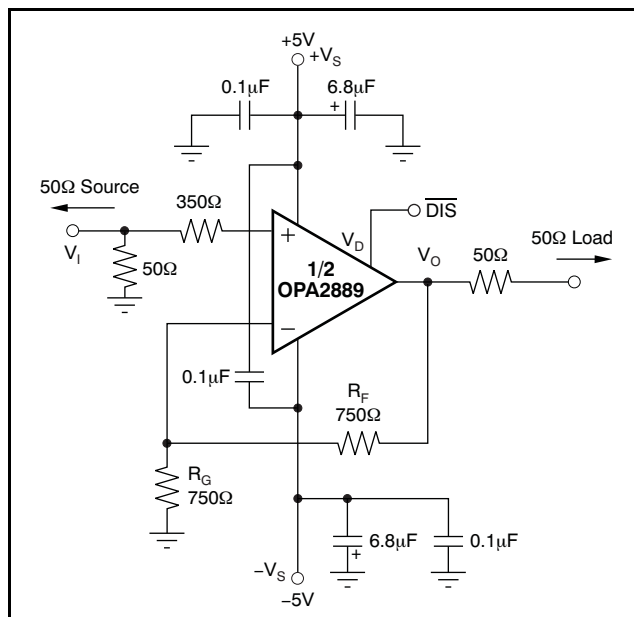
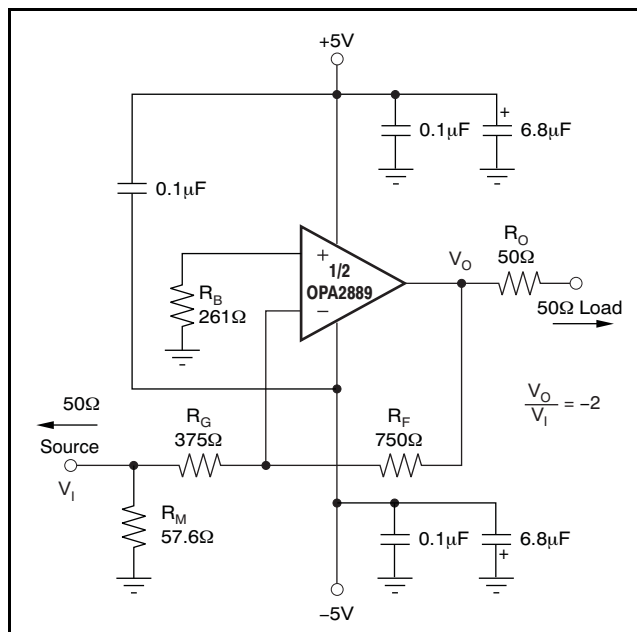

Figure 50. DC-Coupled, G = +2, Bipolar Supply, Specification and Test Circuit
Figure 60. Gain of -2V/V Example Circuit
At $T_A = +25^\circ C$, $G = +2V/V$, $R_F = 750\Omega$, and $R_L = 100\Omega$, unless otherwise noted. See Figure 50.
Figure 50 shows the dc-coupled, gain of +2V/V, dual power-supply circuit configuration used as the basis of the ±5V Electrical Characteristics and ±5V Typical Characteristics. This illustration is for one channel; the other channel is connected similarly. For test purposes, the input impedance is set to 50Ω with a resistor to ground and the output impedance is set to 100Ω. Voltage swings reported in the Electrical Characteristics are taken directly at the input and output pins, while output powers (dBm) are at the matched 50Ω load. For the circuit of Figure 50, the total effective load will be 100Ω || 1.5kΩ. The disable control line (MSOP-10 package only) is typically left open for normal amplifier operation. Two optional components are included in Figure 50. An additional resistor (350Ω) is included in series with the noninverting input. Combined with the 25Ω dc source resistance looking back towards the signal generator, this resistor gives an input bias current cancelling resistance that matches the 375Ω source resistance seen at the inverting input (see the DC Accuracy and Offset Control section). In addition to the usual power-supply decoupling capacitors to ground, a 0.1μF capacitor is included between the two power-supply pins. In practical printed circuit board (PCB) layouts, this optional-added capacitor typically improves the 2nd-harmonic distortion performance by 3dB to 6dB.
A good rule of thumb is to target the parallel combination of R_F and R_G (see Figure 50) to be less than approximately 400Ω. The combined impedance $R_F \parallel R_G$ interacts with the inverting input capacitance, placing an additional pole in the feedback network and thus, a zero in the forward response. Assuming a 2pF total parasitic on the inverting node, holding $R_F \parallel R_G < 400\Omega$ keeps this pole above 160MHz. By itself, this constraint implies that the feedback resistor R_F can increase to several kΩ at high gains. This increase in resistor size is acceptable as long as the pole formed by R_F and any parasitic capacitance appearing in parallel is kept out of the frequency range of interest.
Voltage-feedback op amps exhibit decreasing closed-loop bandwidth as the signal gain increases. In theory, this relationship is described by the Gain Bandwidth Product (GBP) shown in the Electrical Characteristics. Ideally, dividing GBP by the noninverting signal gain (also called the Noise Gain, or NG) predicts the closed-loop bandwidth. In practice, this principle only holds true when the phase margin approaches 90°, as it does in high gain configurations. At low gains (increased feedback factors), most amplifiers exhibit a more complex response with lower phase margin. The OPA2889 is compensated to give a slightly peaked response in a noninverting gain of 2V/V (see Figure 50). This compensation results in a typical gain of +2V/V bandwidth of 60MHz, far exceeding that predicted by dividing the 75MHz GBP by 2. Increasing the gain causes the phase margin to approach 90° and the bandwidth to more closely approach the predicted value of (GBP/NG). At a gain of +10, the 8MHz bandwidth shown in the Electrical Characteristics agrees closely with that predicted using the simple formula and the typical GBP of 75MHz.
The frequency response in a gain of +2V/V may be modified to achieve exceptional flatness simply by increasing the noise gain to 2.5V/V. One way to modify the response without affecting the +2V/V signal gain, is to add a 750Ω resistor across the two inputs, as shown in the circuit of Figure 50. A similar technique may be used to reduce peaking in unity-gain (voltage follower) applications. For example, by using a 750Ω feedback resistor along
The OPA2889 is a general-purpose, wideband, voltage-feedback op amp; therefore, all of the familiar op amp application circuits are available to the designer. Inverting operation is one of the more common requirements and offers several performance benefits. See Figure 60 for a typical inverting configuration where the I/O impedances and signal gain from Figure 50 are retained in an inverting circuit configuration.
In the inverting configuration, three key design considerations must be noted. The first is that the gain resistor (R_G) becomes part of the signal channel input impedance. If input impedance matching is desired (which is beneficial whenever the signal is coupled through a cable, twisted-pair, long PCB trace, or other transmission line conductor), R_G may be set equal to the required termination value and R_F adjusted to give the desired gain. This consideration is the simplest approach and results in optimum bandwidth and noise performance. However, at low inverting gains, the resultant feedback resistor value can present a significant load to the amplifier output. For an inverting gain of -2V/V, setting R_G to 50Ω for input matching eliminates the need for R_M but requires a 100Ω feedback resistor. This approach has the interesting advantage that the noise gain becomes equal to 2V/V for a 50Ω source impedance—the same as the noninverting circuits considered in Figure 60. The amplifier output, however, now sees the 100Ω feedback resistor in parallel with the external load. In general, the feedback resistor should be limited to the 200Ω to 1.5kΩ range. In this case, it is preferable to increase both the R_F and R_G values (see Figure 60), and then achieve the input matching impedance with a third resistor (R_M) to ground. The total input impedance becomes the parallel combination of R_G and R_M .
The second major consideration, touched on in the previous paragraph, is that the signal source impedance becomes part of the noise gain equation and influences the bandwidth. For the example in Figure 60, the R_M value combined in parallel with the external 50Ω source impedance yields an effective driving impedance of $50Ω \parallel 57.6Ω = 26.7Ω$. This impedance is added in series with R_G for calculating the noise gain (NG). The resulting NG is 2.86V/V for Figure 60, as opposed to only 2V/V if R_M could be eliminated as discussed above. Therefore, the bandwidth is slightly lower for the gain of -2V/V circuit of Figure 60 than for the gain of +2V/V circuit of Figure 50.
The third important consideration in inverting amplifier design is setting the bias current cancellation resistor on the noninverting input (R_B). If this resistor is set equal to the total dc resistance looking out of the inverting node, the output dc error, as a result of the input bias currents, is reduced to (Input Offset Current) $\times R_F$. If the 50Ω source impedance is dc-coupled in Figure 60, the total resistance to ground on the inverting input is 402Ω.
The OPA2889 provides good distortion performance into a 200Ω load on $\pm 5V$ supplies. Relative to alternative solutions, it provides exceptional performance into lighter loads and/or operating on a single +5V supply. Generally, until the fundamental signal reaches very high frequency or power levels, the 2nd-harmonic dominates the distortion with a negligible 3rd-harmonic component. Focusing then on the 2nd-harmonic, increasing the load impedance improves distortion directly. Remember that the total load includes the feedback network; in the noninverting configuration (see Figure 50), this total is the sum of $R_F + R_G$, while in the inverting configuration it is just R_F . Also, providing an additional supply-decoupling capacitor ($0.1\mu F$) between the supply pins (for bipolar operation) improves the 2nd-order distortion slightly (3dB to 6dB). Operating differentially also lowers 2nd-harmonic distortion terms (see the plot on the front page).
Evaluating these two equations for the OPA2889 circuit and component values (see Figure 50) gives a total output spot noise voltage of 18.2nV/√Hz and a total equivalent input spot noise voltage of 9.1nV/√Hz. This total includes the noise added by the bias current cancellation resistor (350Ω) on the noninverting input. This total input-referred spot noise voltage is slightly higher than the 8nV/√Hz specification for the op amp voltage noise alone. This result is the case as long as the impedances appearing at each op amp input are limited to the
previously recommend maximum value of 400Ω. Keeping both ($R_F \parallel R_G$) and the noninverting input source impedance less than 400Ω satisfies both noise and frequency response flatness considerations. Because the resistor-induced noise is relatively negligible, additional capacitive decoupling across the bias current cancellation resistor (R_B) for the inverting op amp configuration of Figure 60 is not required.
The balanced input stage of a wideband voltage-feedback op amp allows good output dc accuracy in a wide variety of applications. The power-supply current trim for the OPA2889 gives even tighter control than comparable amplifiers. Although the high-speed input stage does require relatively low $\pm 0.75\mu A$ input bias current, the close matching between them may be used to reduce the output dc error caused by this current. The total output offset voltage may be reduced by matching the dc source resistances appearing at the two inputs. This matching reduces the output dc error resulting from the input bias currents to the offset current times the feedback resistor. Evaluating the configuration of Figure 50, and using worst-case +25°C input offset voltage and current specifications, gives a worst-case output offset voltage equal to: